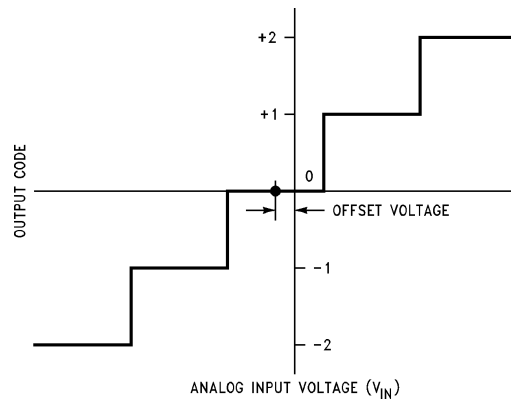

Figure 7. Offset or Zero Error Voltage
| Symbol (See Figure 7 Figure 40 Figure 42) | Parameter | Conditions | Typical (4) | Limits (5) | Units |